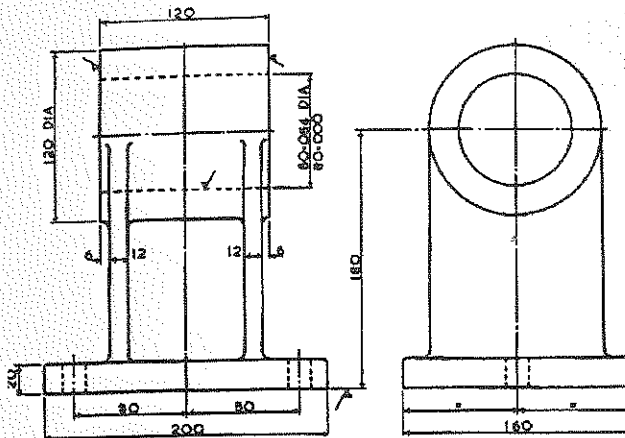

Fig. 9 Support Bracket-Cast Iron
16. (a) For the cast iron support bracket shown in Fig. 9. (i) Indicate the preferred parting line and any necessary sand cores. (ii) Offer a design modification that will reduce or eliminate the need for sand cores.